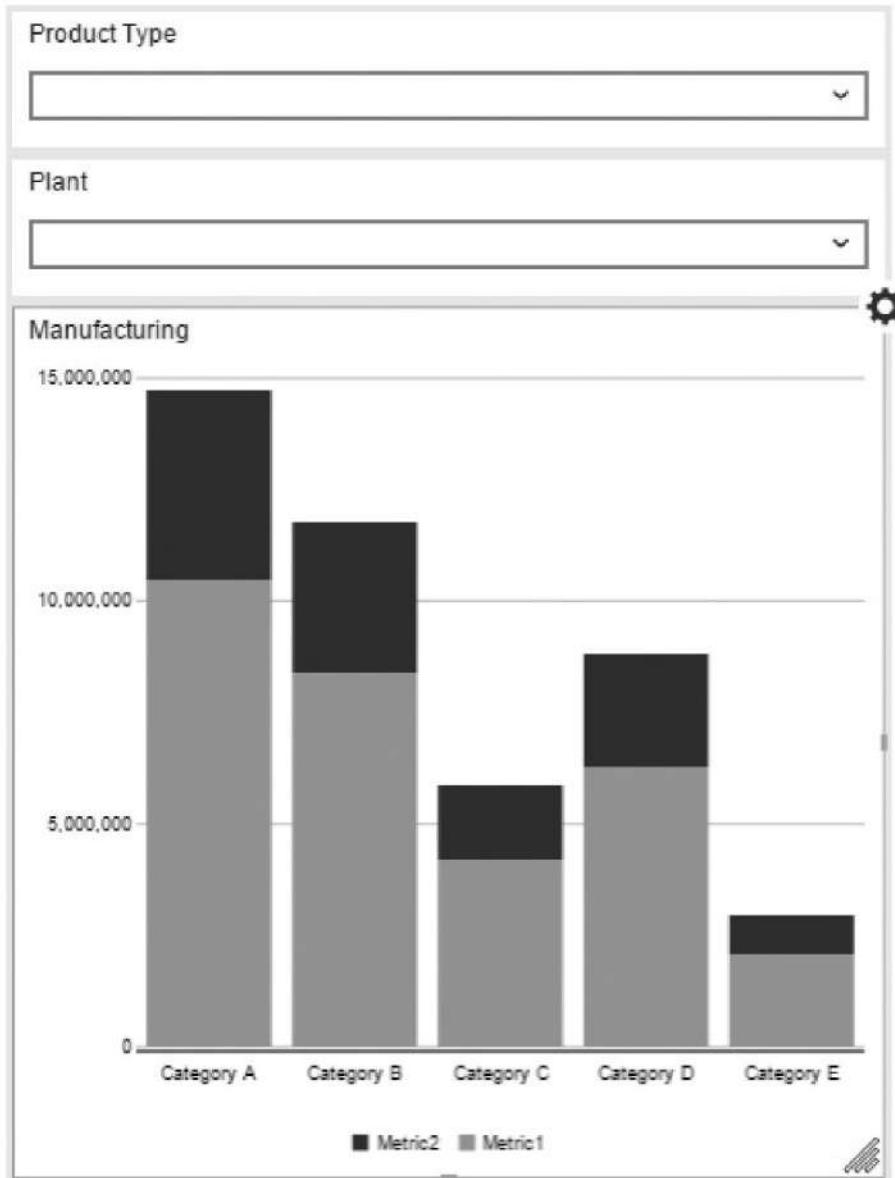

**Figure 17-19** The Layouts drop-down list
13. Use the Layouts drop-down list, shown in Figure 17-19, to select the Tablet layout. The Tablet layout appears. Notice also that only the three report elements included in the Master layout are now available in the Report elements area.